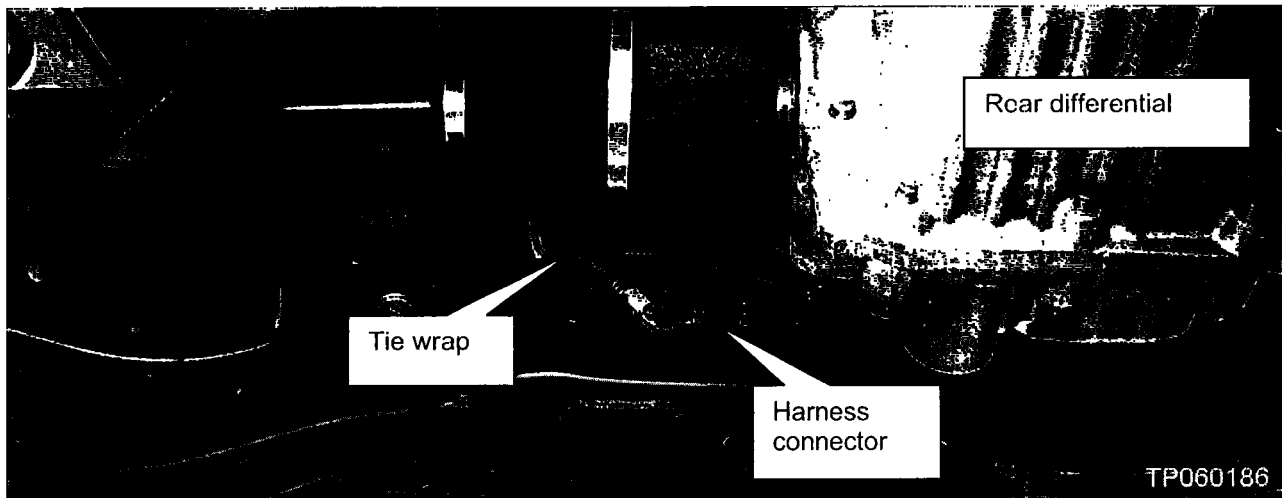

Figure 21
13. Locate the harness connector shown in Figure 21 and disconnect it.
14. Remove the tie wrap shown in Figure 21 from the suspension member using a pair of needle-nose pliers.